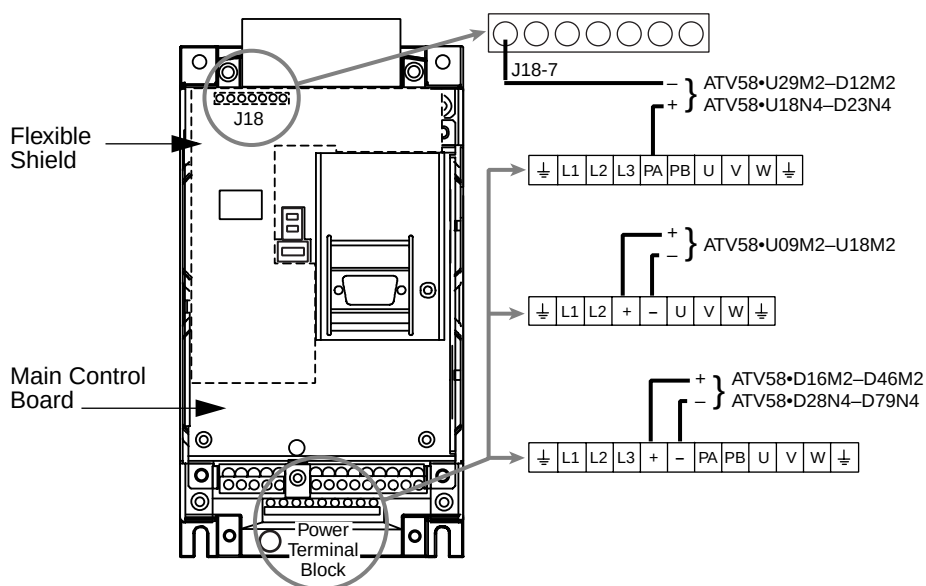

Figure 11: DC Bus Measurement Terminals
The DC bus voltage level is determined by monitoring the (+) and (-) measurement points. Their location varies by drive controller model number as listed in Table 16 and shown in Figure 11. The drive controller model number is listed on its nameplate.
3. Read the model number of the drive controller from the nameplate and identify the corresponding (+) and (-) measurement points from Table 16 and Figure 11.